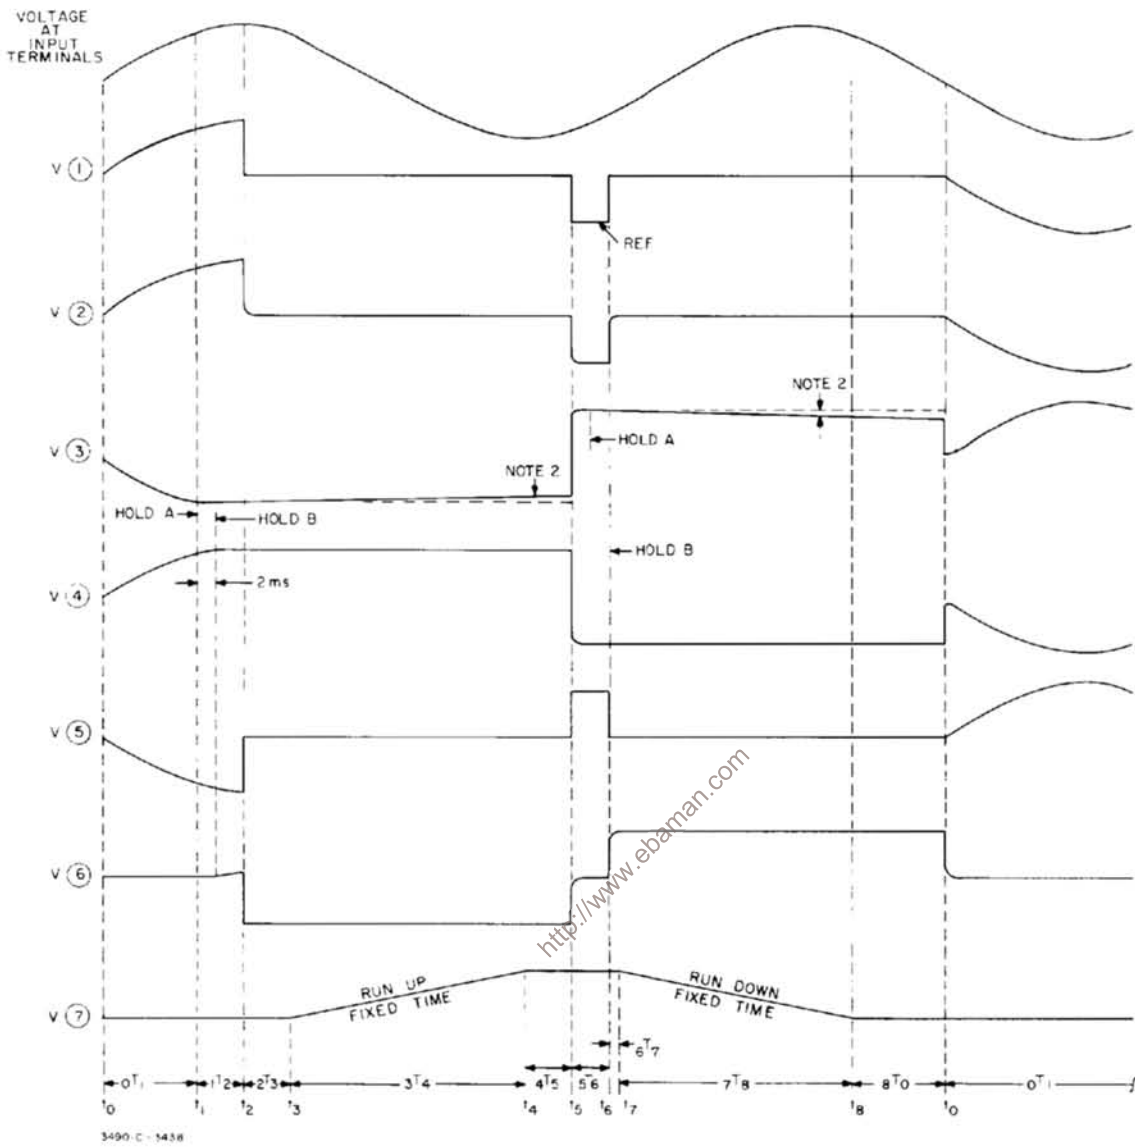

Figure 4-31. Sample/hold Simplified Diagram And Measurement Sequence.
4-219. Figure 4-31 shows a simplified diagram of the Sample/Hold circuits and describes the measurement sequence. Sample/Hold Circuit A can respond quickly to a change in voltage at point 2. However, this circuit cannot hold a fixed level long enough for a complete measurement. Sample/Hold Circuit B cannot respond as quickly as A, but can hold a fixed level long enough for a complete measurement. In a Sample/Hold measurement, the voltage is sampled by Circuit A, then held by A until Circuit B has time to respond. Then the voltage is held by B while the measurement is completed.
4-220. Waveforms shown in Figure 4-31 illustrate the measurement sequence for a single measurement on a sine wave, and the accompanying notations indicate the events occurring during the measurement sequence. In Sample/Hold measurements, the circuits must be in the Track Mode from the completion of one measurement until the receipt of the next Sample/Hold Trigger command. For this reason, the DC Input Amplifier is connected to the input terminals during this entire period, and the normal auto-zero cycle of this amplifier cannot be used. Consequently, there is a slight offset voltage present in its output. This offset is removed from the Sample/Hold measurement voltage as follows:
a. The voltage at point 6 (refer to the diagram and waveforms in Figure 4-31) during the run-up period, V_4 , is the algebraic sum of the voltages at points 4 and 5. The voltage at point 4 is the sum of the input signal
Offset Amplifier output) and applies this voltage to the Integrator (A - to - D Conversion) circuit through K1, as shown in Figure 4-31. If Sample/Hold operation is not selected, the DC Input Amplifier output signal by-passes the Sample/Hold circuits through K2.